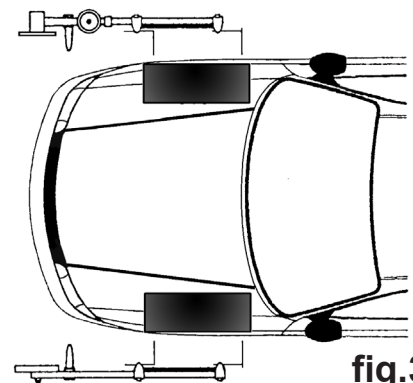

fig.3
- 4.8 Now set up the two parts of the gauge as shown in fig.3 and hold down the laser switch to turn it on. (The beam turns off again when the switch is released). Take hold of the pointer arm between the graduated scale and the circular calculator and move it until the laser beam is on the centre line of the target plate. The graduated scale will now show the amount of toe-in or toe-out in degrees and minutes. Each division of the scale represents 10 minutes.